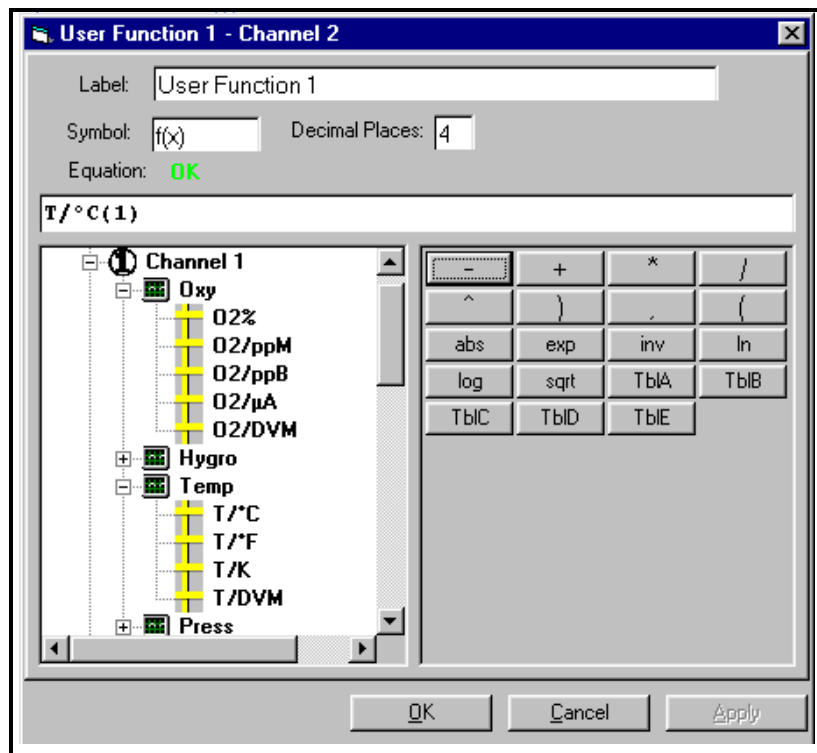

Figure 17: The User Function Window
2. Click on “*User Functions*,” and then double-click on the desired function (1 to 4). The right side of the screen appears similar to Figure 17 below.